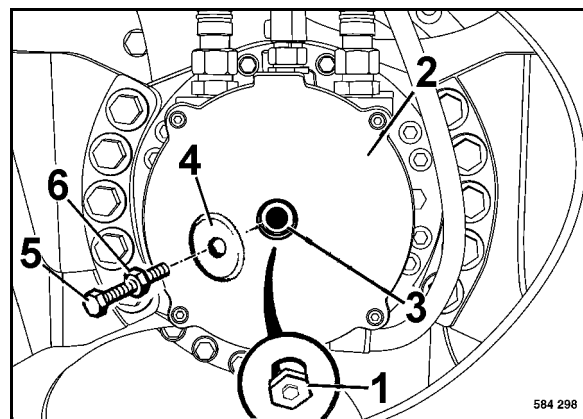

Fig. 114
- Unscrew the brake releasing screw from the brake in the drum drive motor, screw the plug (1) (Fig. 114) back in and tighten it.